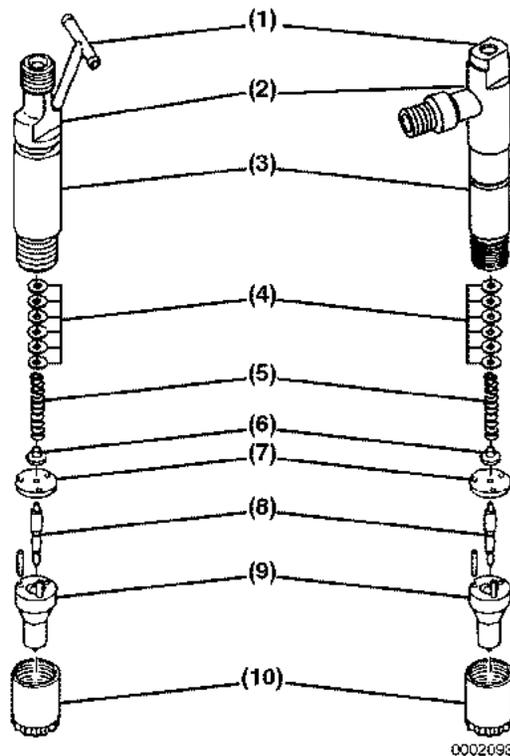

Figure 6-89
The fuel injectors open when pressure reaches a predetermined pressure threshold. They close when the pressure is reduced below that threshold. The pressure threshold can be adjusted by adding or removing shims (Figure 6-89, (4)).